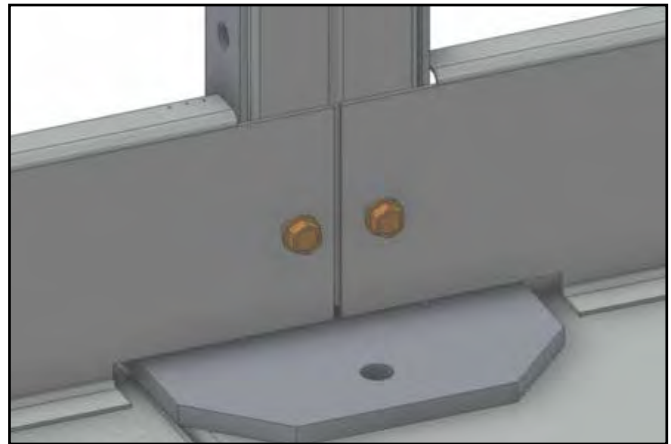

Figure 35 – Top Perimeter Guardrail Toe Board Attachment
4. Install the toe boards using the 5/16" self-tapping screws provided. See Figure 35.